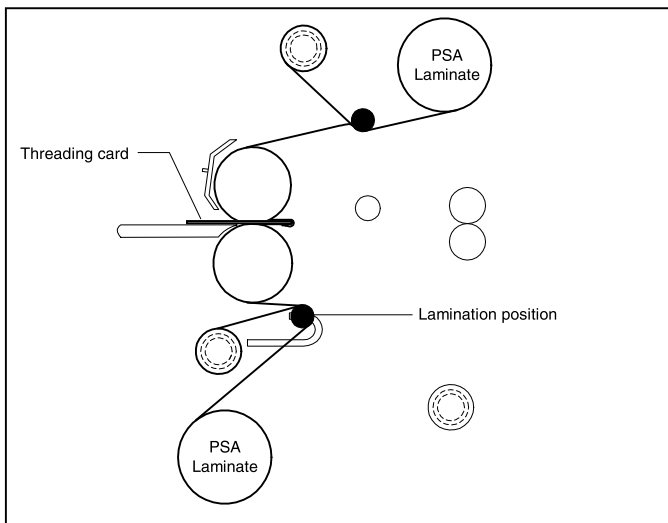

Fig. 30
10. Pivot the table back to its feeding position while ensuring the threading card is on top of the feed table (Figure 30).